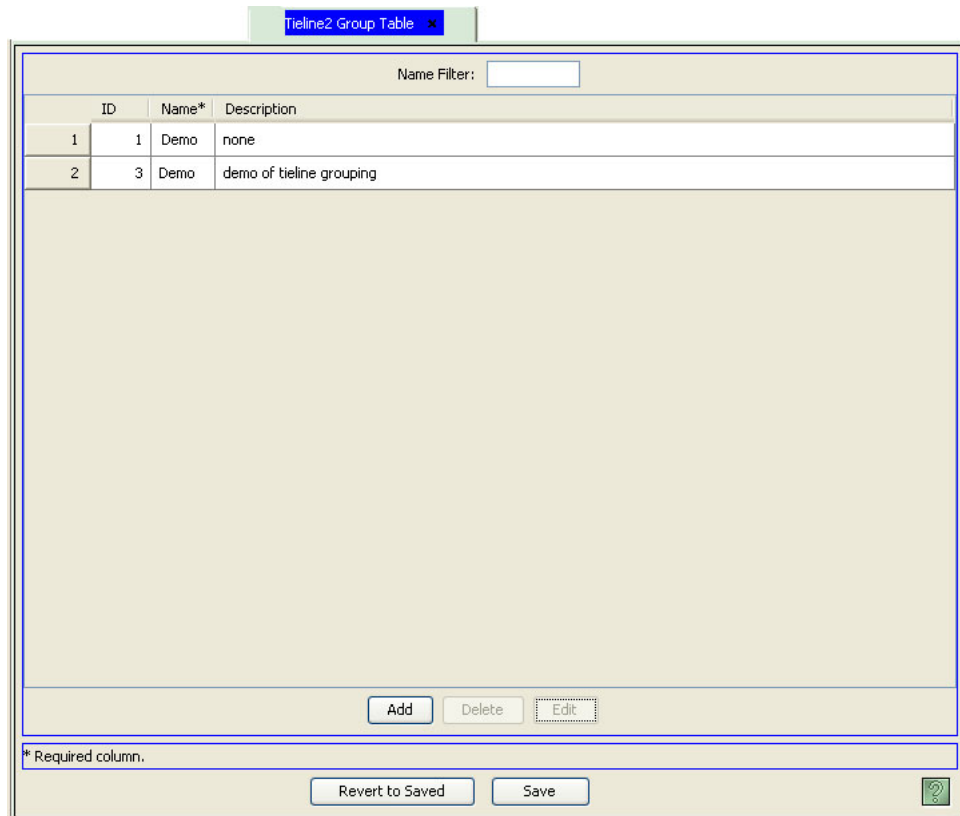

Figure 16-28. Tieline Group Table
- 2 From the Navigation area, select the 'Views' pane and then 'Tieline Group'. The 'Tieline Group' table appears, as shown in Figure 16-28.